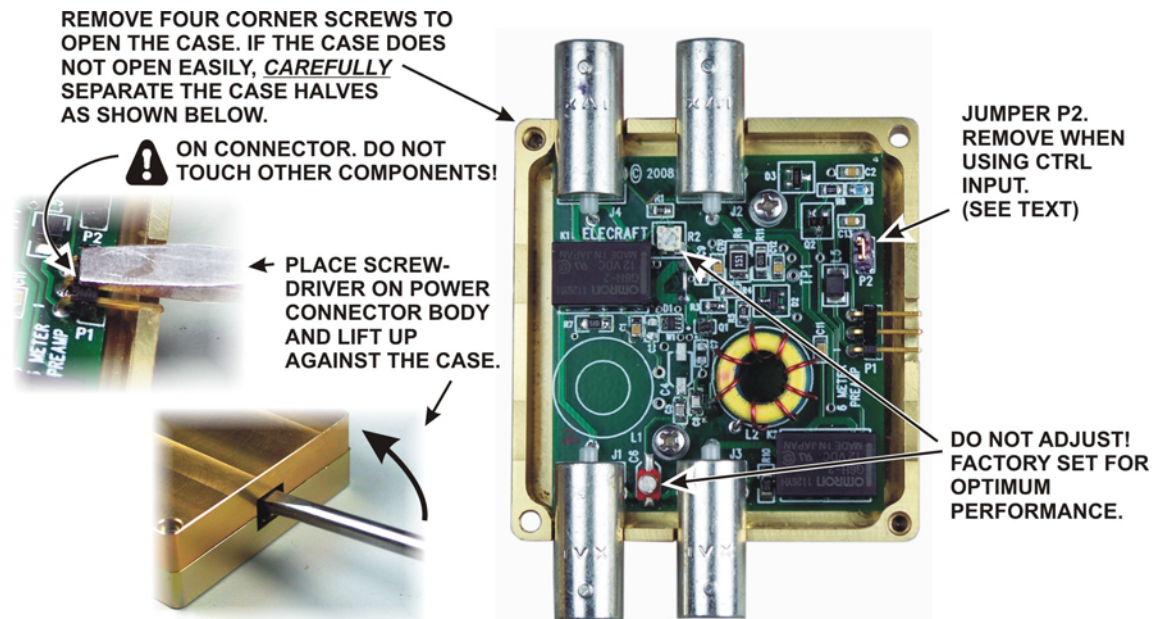

Figure 3. Jumper P2 Location.
When the control (CTRL) is used and jumper P2 is removed (see Figure 3), the K3 may be configured so that the preamplifier is switched on only when the 6 meter band is selected. Since power is switched off on other bands, the bypass connections are active and the preamplifier does not draw power. Configure the K3 as follows:
If the control (CTRL) line is not used and jumper P2 is installed (see Figure 3), the PR6 will be switched into the circuit when the RX ANT button is pressed. The bypass antenna connections are not available unless power is removed from the PR6.
- The preamplifier is switched into the circuit by applying +12 VDC to the unit if jumper P2 is installed or, if jumper P2 is removed, by applying +12 VDC and grounding the CTRL input. Jumper P2 is shown in Figure 3.